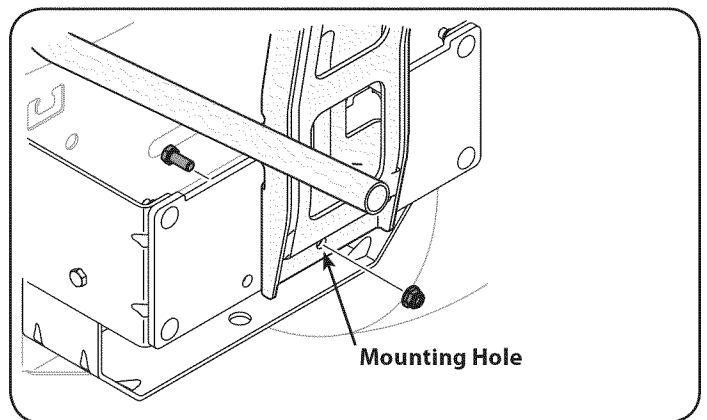

Figure 8
4. Secure the hanger assembly to the mounting assembly using a 5/16" bolt and flange nut provided. See Fig. 8.